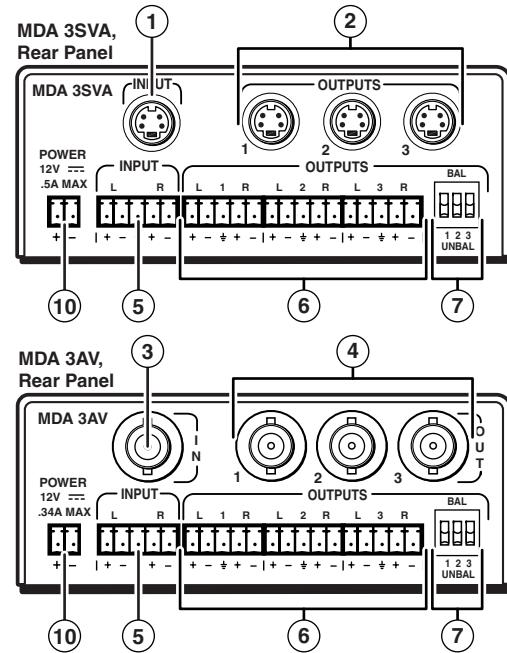
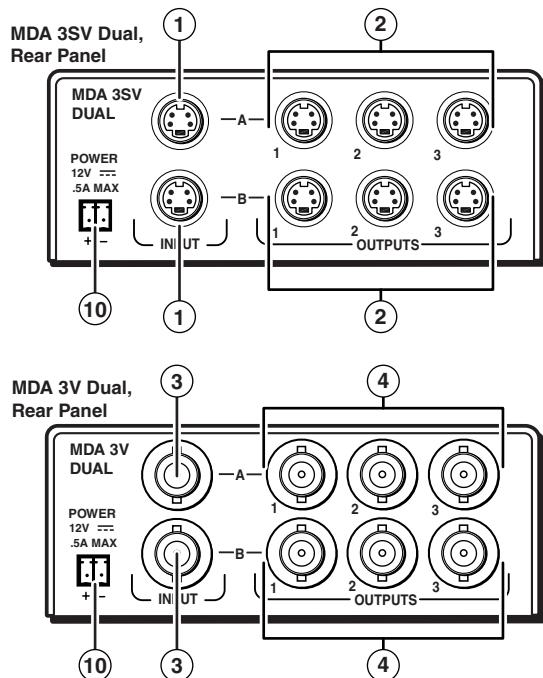
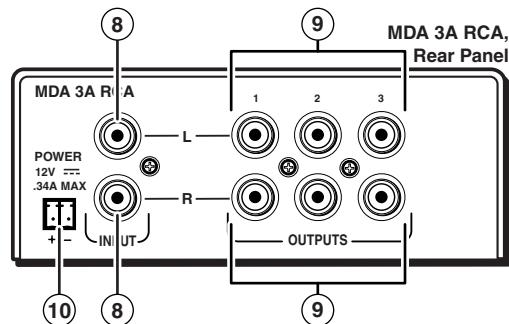

Figure 6 — MDA 3 Series front and rear panels
Figure 7 — MDA 3SV Dual and MDA 3V Dual rear panels
Figure 11 — MDA 3A RCA rear panel
See figure 6, figure 7, and figure 11 to make the following connections. The figures show all of the combinations of connectors that you may encounter with your MDA.
- 1 **Input connector (s)** — Connect an S-video input to this 4-pin mini DIN connector (figure 6 and figure 7). On the Dual model (figure 7), Input A and Input B are completely separate inputs to two separate distribution amplifiers.
- ③ In connector or Input connector — Connect a composite video input to this BNC connector. On the Dual model (figure 7), Input A and Input B are completely separate inputs to two separate distribution amplifiers.
- ④ Out connector or Outputs (1 through 3) connectors — Connect up to three composite video devices to these BNC connectors. On the Dual model (figure 7), the A output signals are identical to the A input, and the B output signals are identical to the B input.